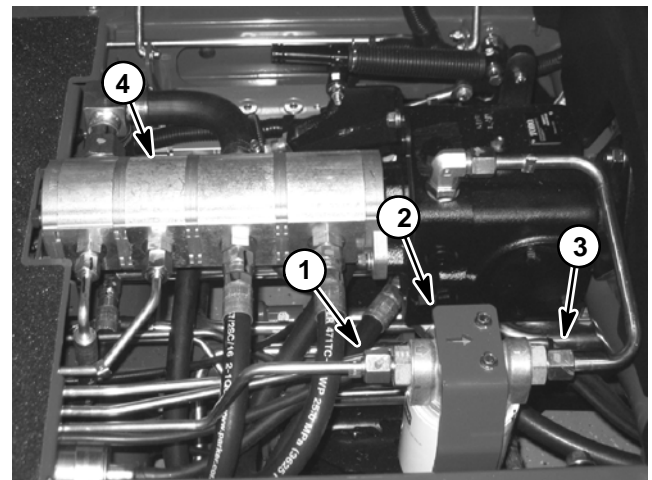

Figure 40
5. Thoroughly clean the ends of the hydraulic tubes connected to the oil filter and traction pump inlets (Fig. 40). Disconnect hydraulic tubes from oil filter inlet and traction pump inlet. Remove two (2) flange head screws that secure oil filter adapter to frame. Remove oil filter assembly and hydraulic tube from machine.